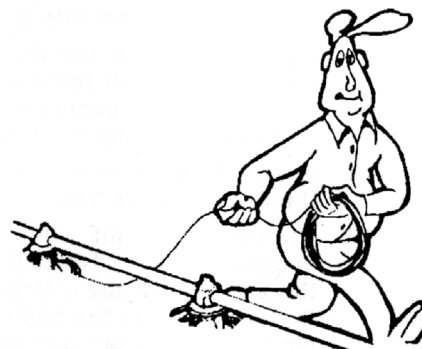

Figure 37. Unrolling Cable
1. Unroll the bulk anti-roost cable. Note: If the cable is unrolled as shown in **Figure 37.**, taking 5 loops of the coil with one hand, then changing hands to remove 5 loops as it is unrolled, it will lie flat during installation.